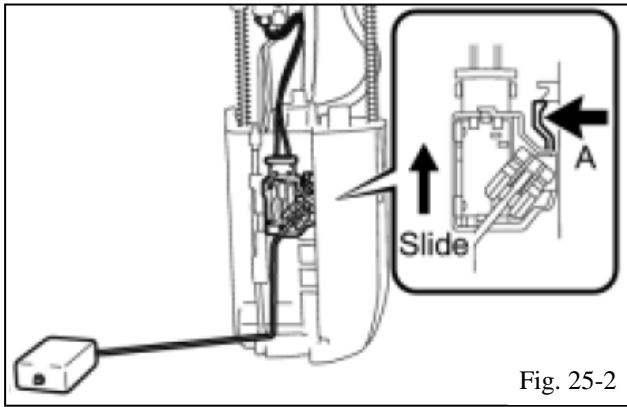

Fig. 25-2
- (b) Press down on the sender gauge claw labeled "A" and slide the sender gauge upward to remove it (Fig. 25-2).